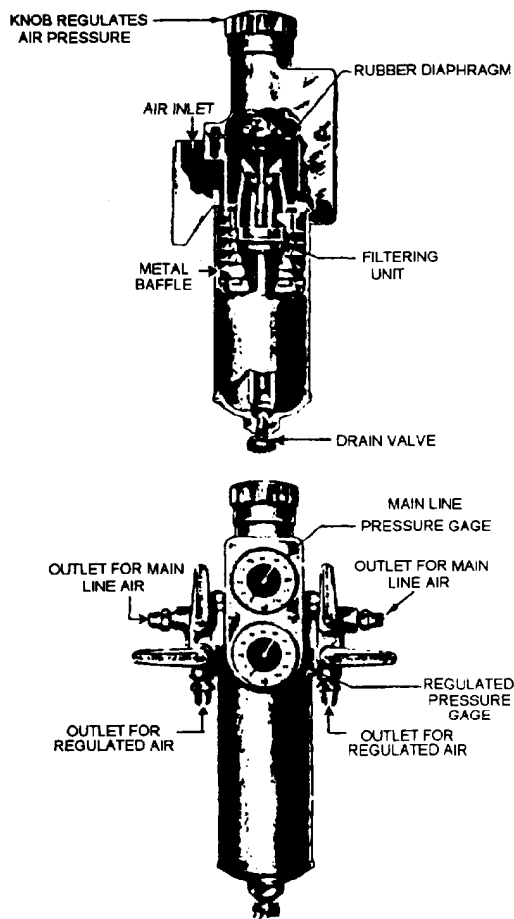

Figure 1-22.—Air transformer.
- **Air Supply:** The compressed air that operates spray guns is supplied by either portable or installed compressors. The air pressure from the compressors is usually set from 100 to 125 psi. The pressure is reduced to spraying pressure by a pressure-regulator valve. When using air compressors, follow the manufacturer's operating instructions. To properly spray paint ensure that the air is dry and free of dust. Since all air contains moisture and dust in varying amounts, some means must be provided to remove it. This is commonly done by an air transformer, frequently called an air separator or an air regulator. Air passing through the transformer enters through an air inlet and passes through a series of baffles and a filter chamber to a regulator diaphragm that adjusts the pressure. During normal weather conditions, the transformer should be drained daily. If the weather is damp, it should be drained several times daily. To drain the transformer, open the drain valve on the bottom of the unit. Change the packing and filter units also at regular intervals. See figure 1-22.